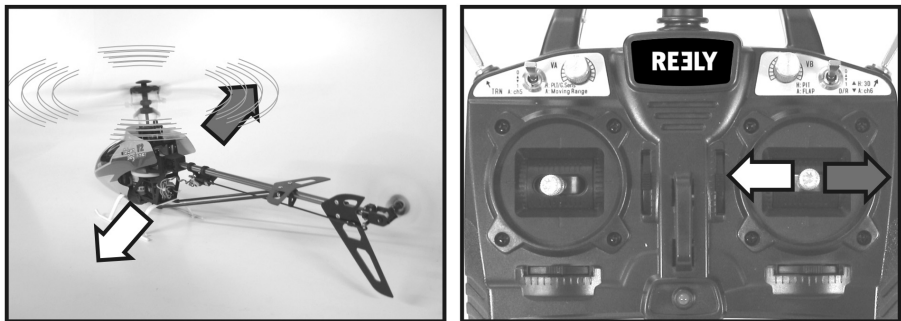

Figure 25
The roll function allows you to move your model helicopter sideways to the right and to the left (see figure 25). Use the right control stick for control (also see figure 1, item 6).